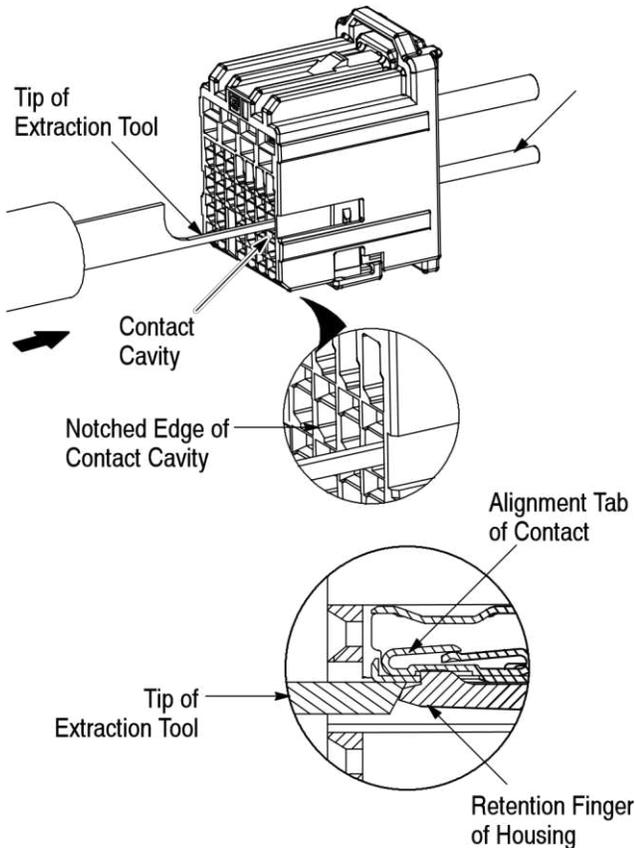

Figure 6
3. For 0.64mm contacts, refer to Figure 6, and proceed as follows: